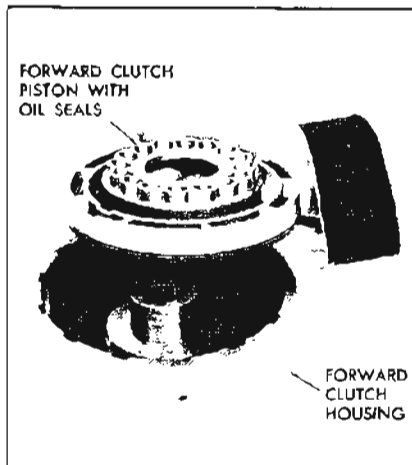

Figure 5-606
7. Remove the clutch piston. See Figure 5-606.